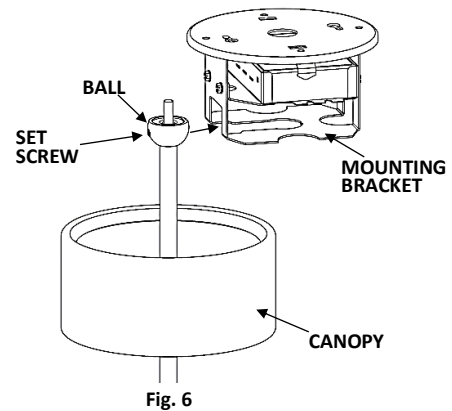

Fig. 6
- Place CANOPY on STEM with hollow side toward MOUNTING BRACKET. Fig. 6.
6. MOUNT STEM TO BRACKET Fig.6